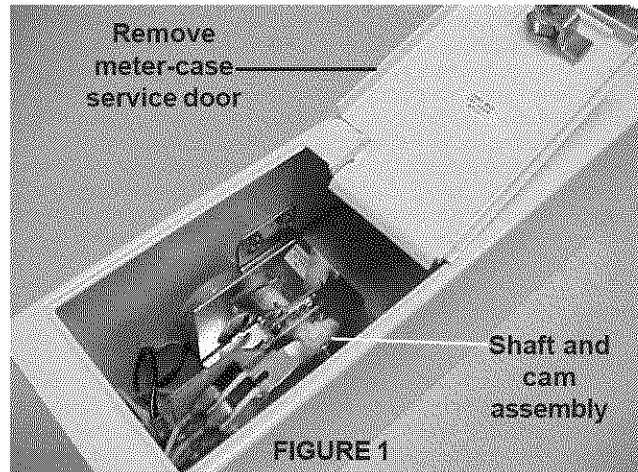

FIGURE 1
Remove slide mechanism from meter case. (see FIGURE 1).
2. Remove meter-case service door. (Fig.1)